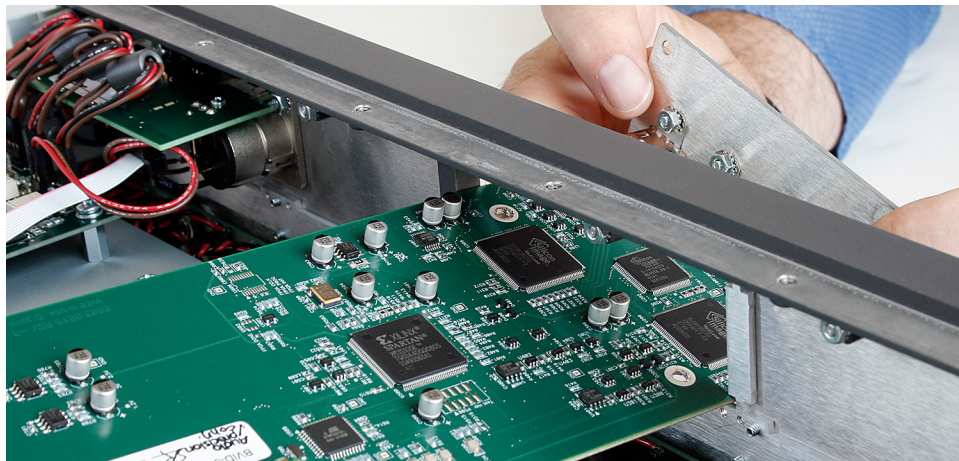

Figure 4 Removing the old HDMI module
5. Slide the old HDMI module out the front of the instrument. Note that it will be necessary to tilt it, as shown in Figure 4, to clear the front panel.
6. Insert the new HDMI module through the front panel, tilting it as shown in Figure 4. Push the end of the card into the connector, and replace the four circuit board screws and the four front panel screws.